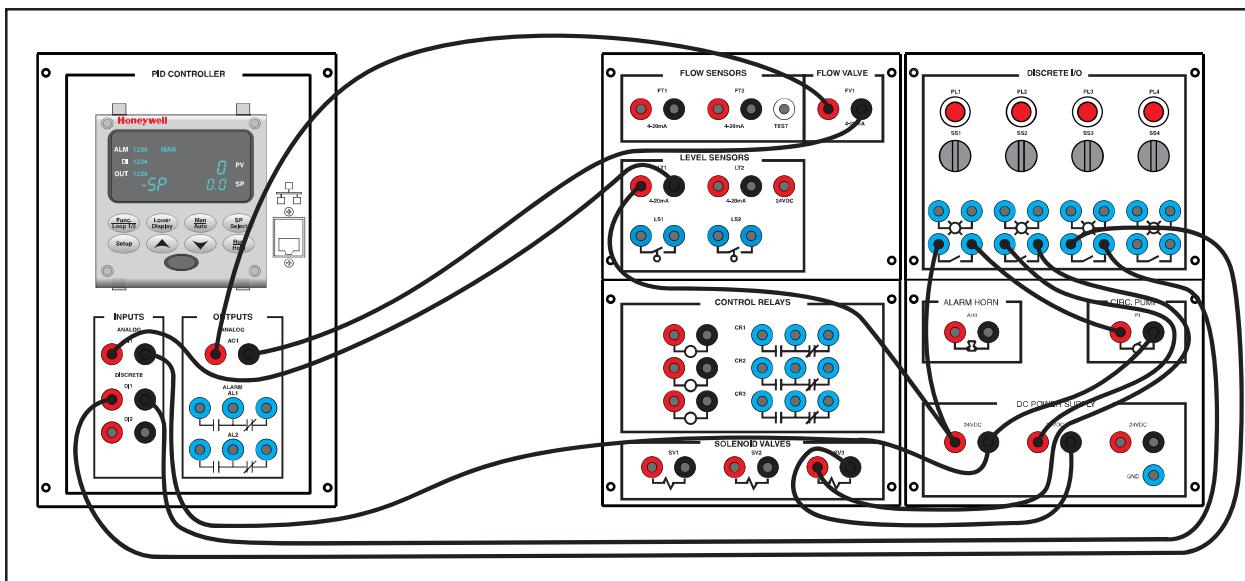

Figure 7-2. Level Control Circuit with Discrete Inputs
- H. Connect the circuit shown in figure 7-2.